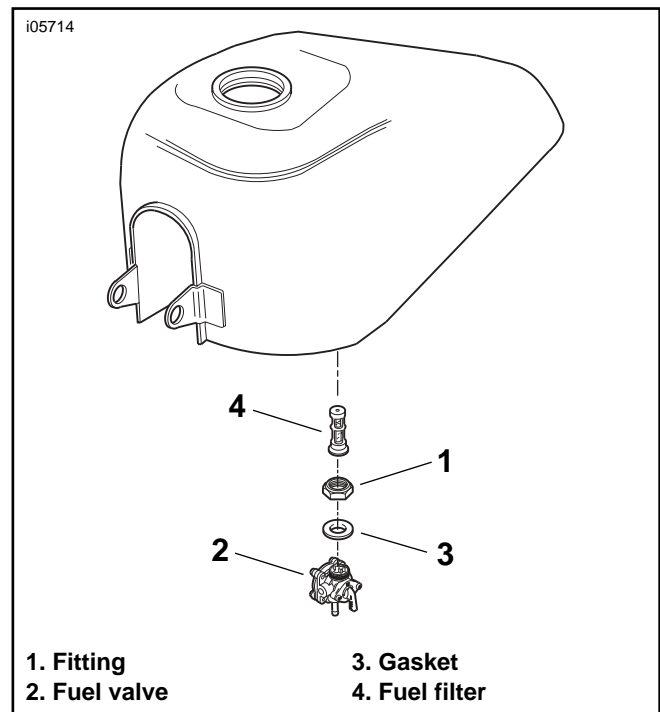

Figure 1. Remove the Fuel Valve
4. See Figure 1. Turn the fitting (1) and remove the fuel valve (2), gasket (3) and fuel filter (4). Save the fuel valve and fitting, and discard the fuel filter and gasket.